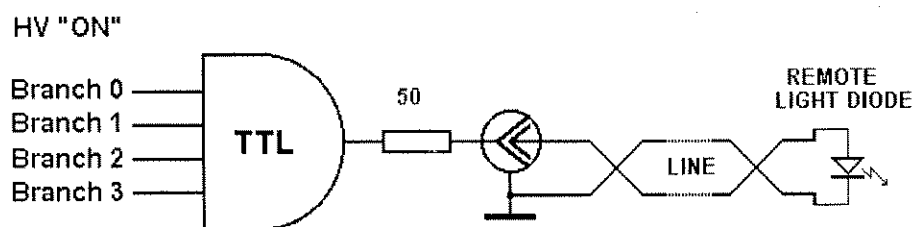

Fig. 5 Schematics of the remote indicator.
- LEMO connector for the remote indicator of base voltage on/off (above branch indicators). The circuit for remote indicator connection is shown in Fig. 5.